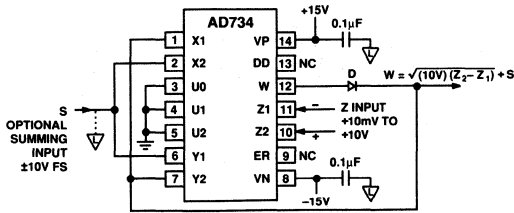

Figure 9. Connection for Square Rooting
In some cases, feedback may be connected to two of the available inputs. This is true for the square-rooting connections (Figure 9), where W is connected to both  $X_1$  and  $Y_2$ . Setting  $X_1 = W$  and  $Y_2 = W$  in Equation (2), and anticipating the possibility of again providing a summing input, so setting  $X_2 = S$  and  $Y_1 = S$ , we find, in shorthand form
The AD734 may be used to generate an output proportional to the square-root of an input using the connections shown in Figure 9. Feedback is now via both the X and Y inputs, and is always negative because of the reversed-polarity between these two inputs. The Z input must have the polarity shown, but because it is applied to a differential port, either polarity of input can be accepted with reversal of Z1 and Z2, if necessary. The diode D, which can be any small-signal type (1N4148 being suitable) is included to prevent a latching condition which could occur if the input momentarily was of the incorrect polarity of the input, the output will be always negative.